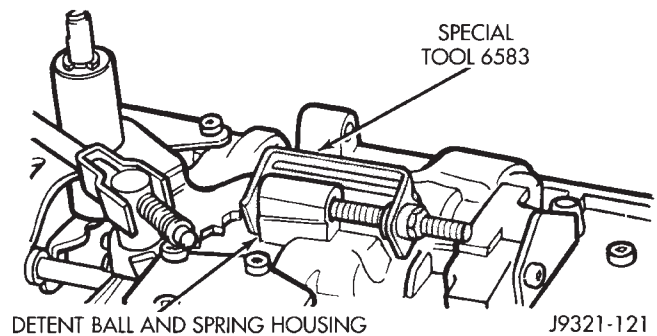

Fig. 41 Securing Detent Ball And Spring With Retainer Tool
(4) Secure detent ball and spring in housing with Retainer Tool 6583 (Fig. 41).